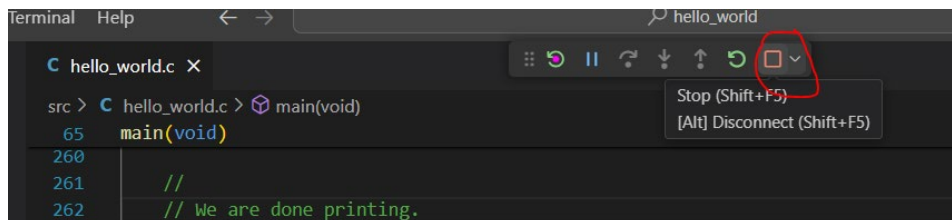

Figure 8 - Stop Button
8. To exit the debugger mode, click on the stop button, as shown in Figure 8.